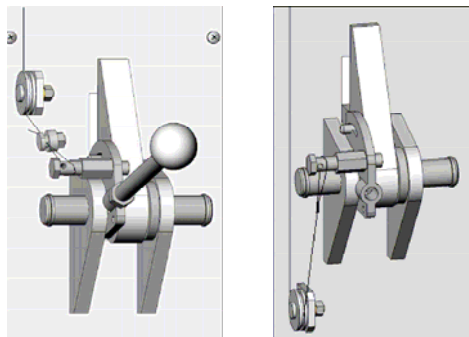

**Fig 5 – Hose Routing**
- 12) Install Overhead Limit Switch under the Overhead Assembly on the Power Side. Route cable around outside of column as shown in **Fig. 5**.
- 22) Route Idler Column Hose (long) beginning at the elbow fitting at the base of the idler column up the backside of the column through the three capture rings. Continue across the overhead and down the backside of the power column. Each column extension is equipped with a bushed chase at the top. **See Fig 5.**